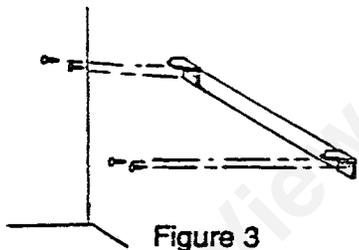

Figure 3
1. Install mounting brackets on wall as shown in Figure 3 use enclosed "paper template" for proper location of hole. See Figure 4. (It may be necessary to use plastic or lead anchors for plaster walls).